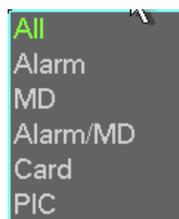

Figure 4-40
- Picture backup: Please set the corresponding time, channel and then select the type as PIC from the dropdown list. See Figure 4-40. Please click the Add button and then select the pictures. Click the Start button; you can copy the specified pictures to the selected portable devices.